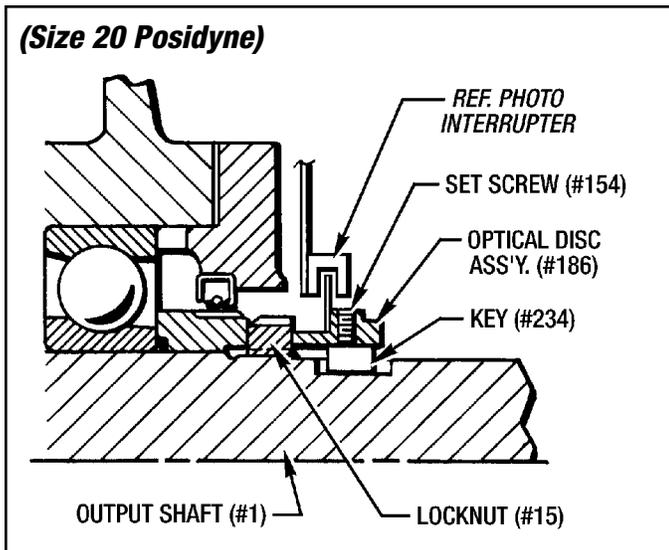

Figure 6.8 - Optical Disc and Hub Positioning
- Slide the Optical Disc Assembly (#186) onto the output shaft until it butts up against the Locknut (#15) as shown in Figure 6.8 below.